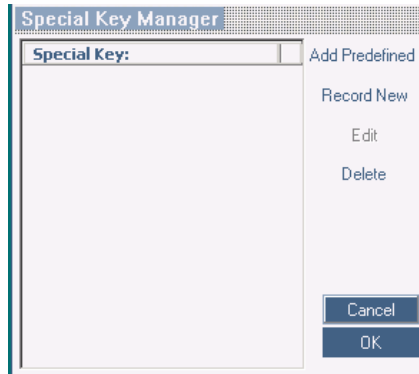

Figure 19 Special Key Manager box
Click **Add/Remove**. The Special Key Manager box appears see Figure 19.
1. From the Special Key Manager box press **Record New**. The Add Special Key box appears see Figure 19.